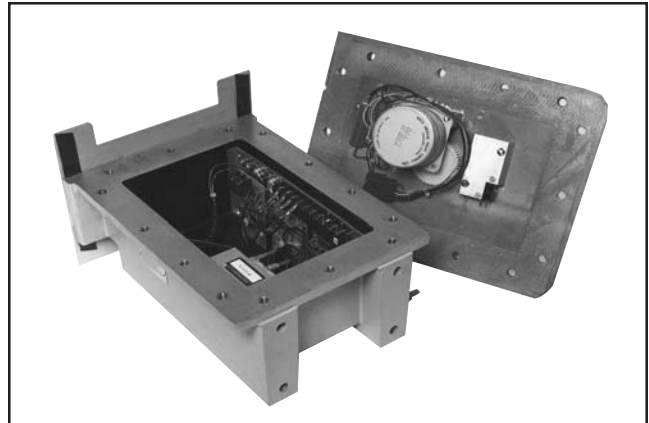

Figure 12 — Cover and Printer Head Removed
1. Remove the cover and printer head assembly (Figure 12) according to the instructions under Printer Head Assembly Removal Section, Page 5, Steps 1-8.